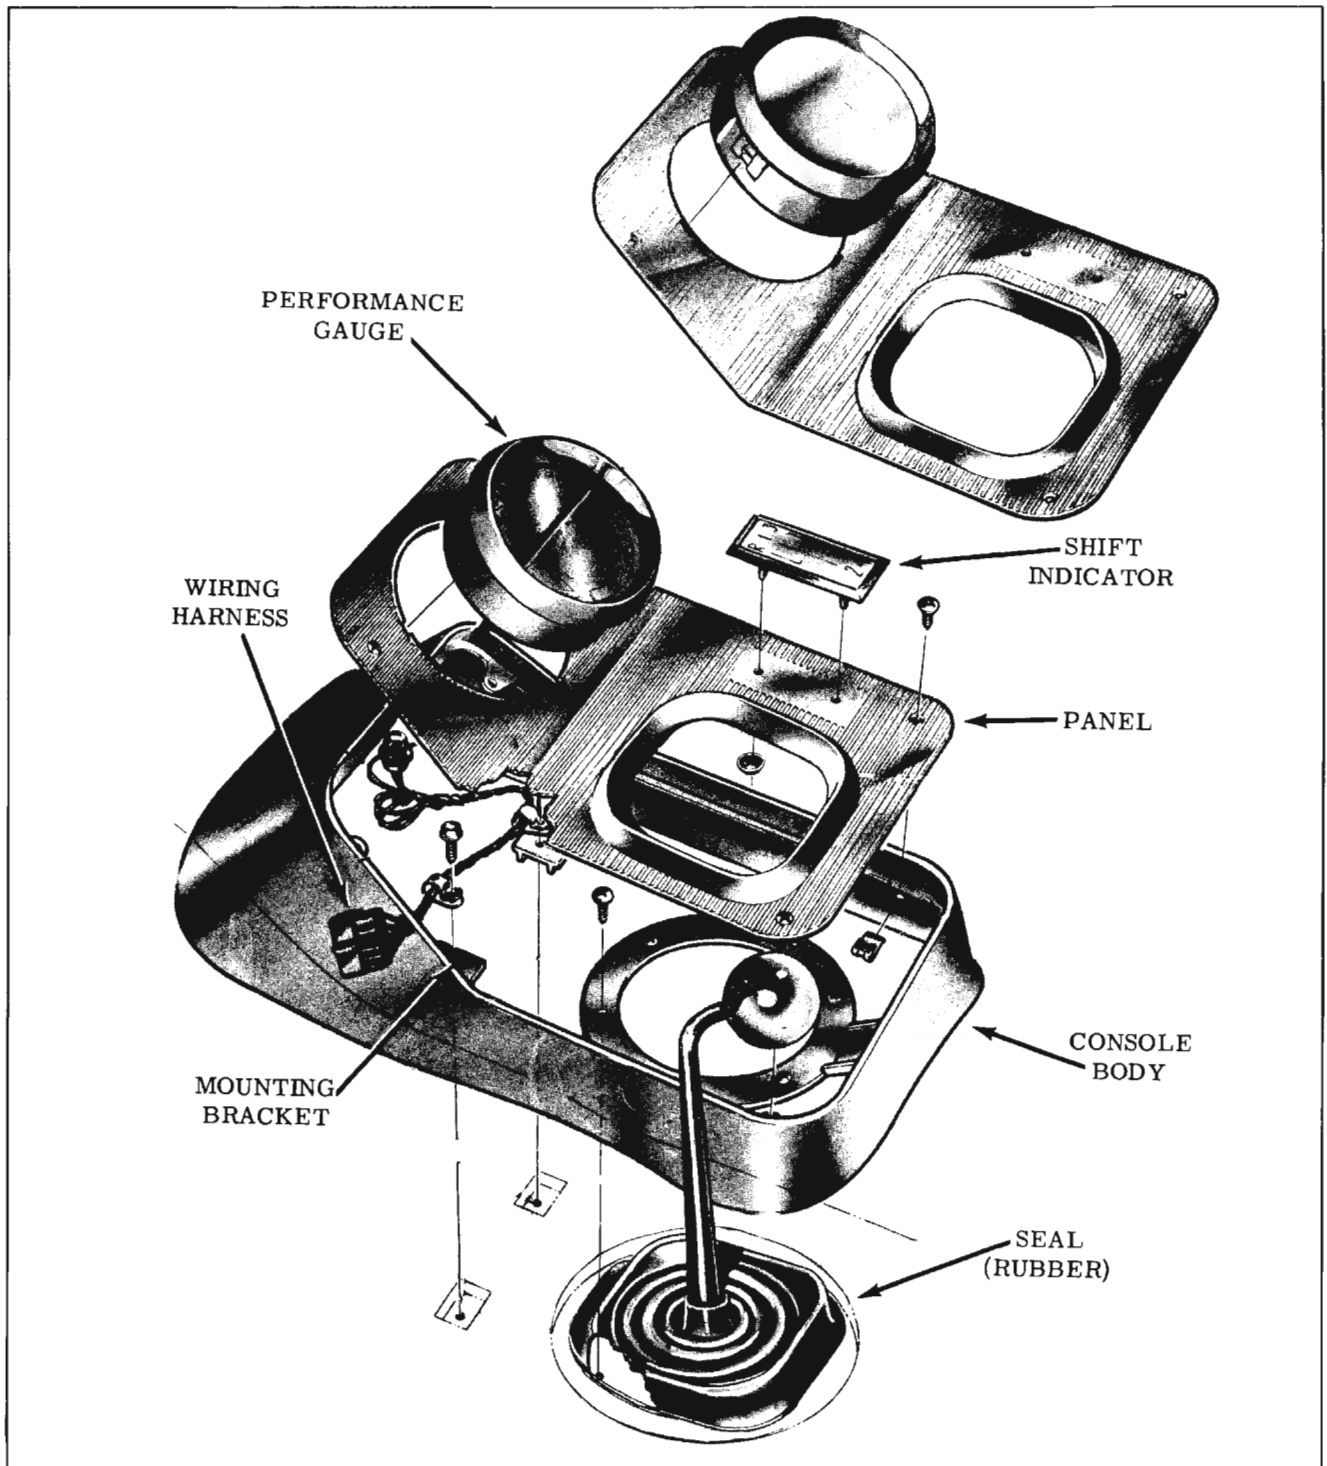

Fig. 13-115 Four-Speed Synchromesh Transmission Console
The four-speed console is equipped with a tachometer on all models except the Jetfire (3147) which is equipped with a Performance Gauge. (Fig. 13-115)
The console is retained by six sheet metal screws around the circumference of the shift lever seal and by two sheet metal screws at two mounting brackets, one on each side just forward of the center of the console. (Fig. 13-115)
4. Lift console body, seal, and seal retainer off shift lever. (Fig. 13-115)